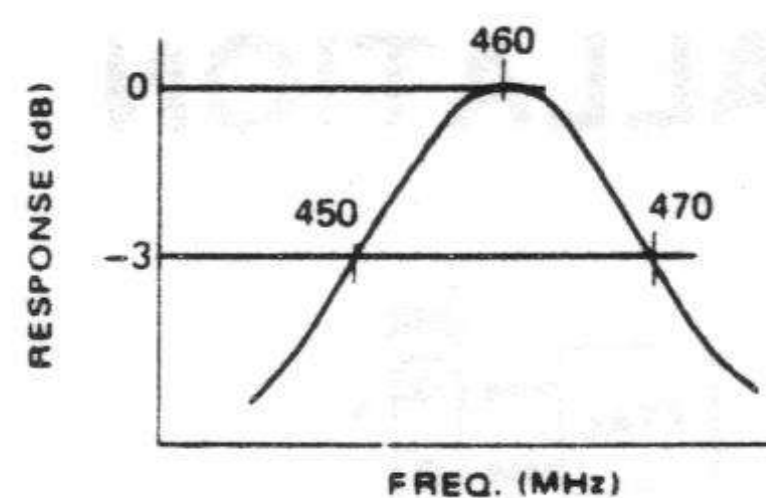

FIGURE 9-1
- Step 3:** Adjust TC1, TC2 and TC3 for maximum output and best curve symmetry as shown in Figure 9-1.